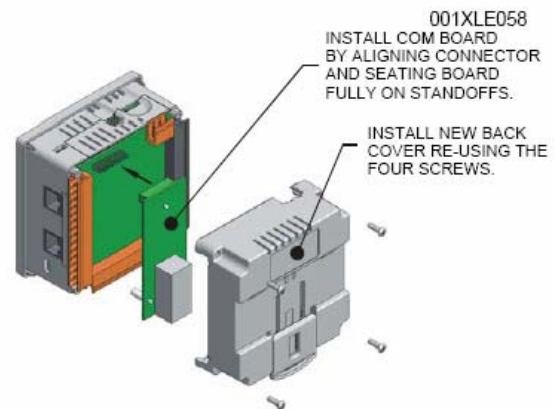

Figure 2 - Installing the COM Board in the XLe
3. Plug the communication board onto the 24-pin connector. Make sure all the pins are properly aligned (Figure 2).
5. Place the screw back into the hole and turn the screw slowly counter clockwise until it clicks into the threads. This prevents the screw from being cross-threaded. Now, turn the screw clock-wise until the cover is firmly secured. Repeat this process for all four (4) screws.